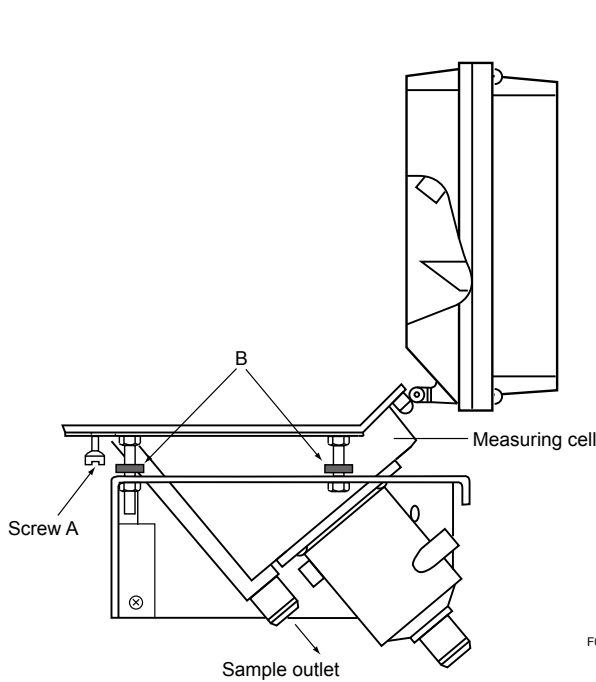
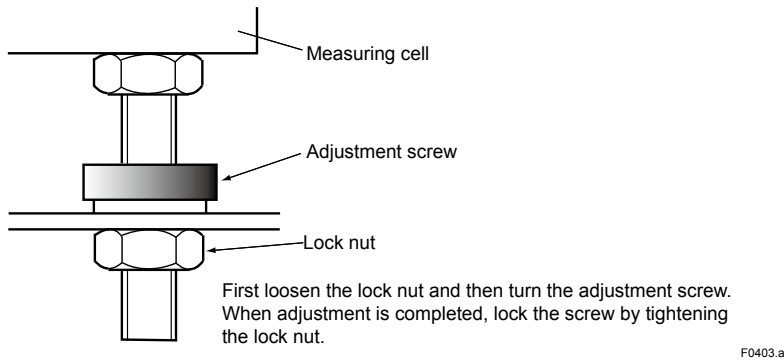

Figure 4.1 Lower Part of Detector
Figure 4.3 Level-Adjustment Screw
- (3) Vent the air by loosening the knob of the air vent on the top of the filter until tap water spills over. After air venting is completed, tighten the knob securely.
- (4) Loosen screw A at the lower part of the detector (see Figure 4.1) to open the detector.
- (1) For the turbidimeter with a sampling system, as the detector level has been adjusted before shipment from the factory, normally it is not necessary to be adjusted for horizontal adjustment (adjustment for flowrate of Sec. 4.1.9 is necessary). If the sampling system is not provided, or level adjustment is needed even with the sampling system provided, place a level at the drain outlet of the measuring cell and adjust the level so that the detector is level in two orthogonal directions with the B screws (in four places) shown in Figure 4.1 (see Figure 4.3). If a level is not available, visual adjustment may be acceptable. In this case, make the adjustment so that water spills out uniformly from the drain outlet of the measuring cell.
- (1) Set FUNCTION “D.” In the <PROGRAM1> mode and confirm that “on” is displayed. “on” means the calibration using the calibration plate (“on” is set when shipped from the factory).
- (2) Set FUNCTION “4” in the <MAINT.> mode. --> “Turbidity valve” is displayed.
- (3) Set to the drain status.
- (4) Loosen screw A at the lower part of the detector to open the detector (see Figure 4.1).